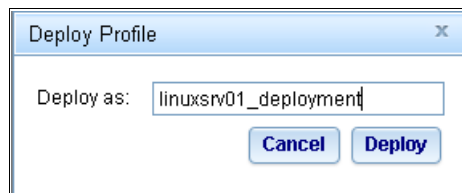

Figure 8-11 Entering a name for profile deployment
4. Type a name for the deployment in the Deploy Profile dialog box shown in Figure 8-11.